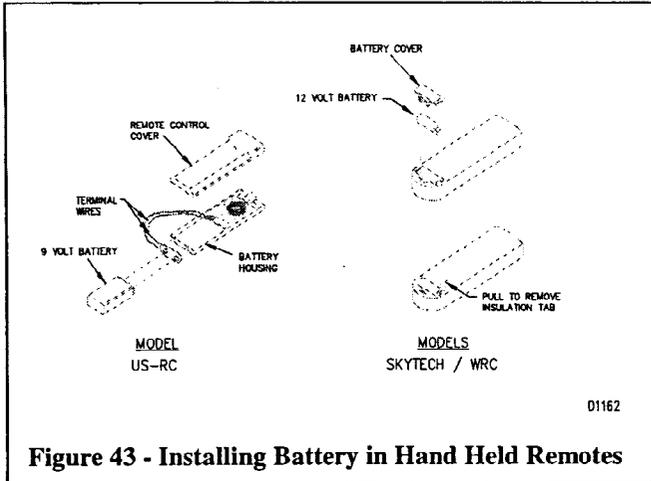

Figure 43 - Installing Battery in Hand Held Remotes
6. Install a 9 volt battery into the US-RC hand held remote by removing the screw on the back and lifting the case open. The SKYTECH model has a 12V battery preinstalled to activate the battery you must remove the insulating tab on the back of the handset (see Figure 43).